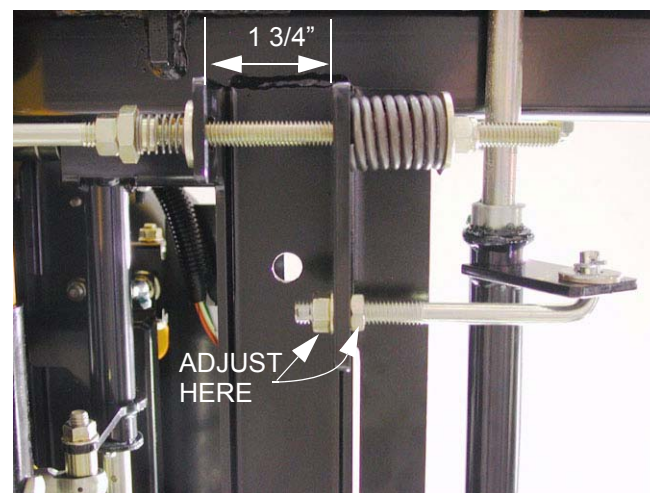

Figure 7.20
- 7.20. Apply the parking brake. The gap between the bottom edges of the brake bracket and the cross member that it rests against in the released position should be roughly 1 3/4". See Figure 7.20.